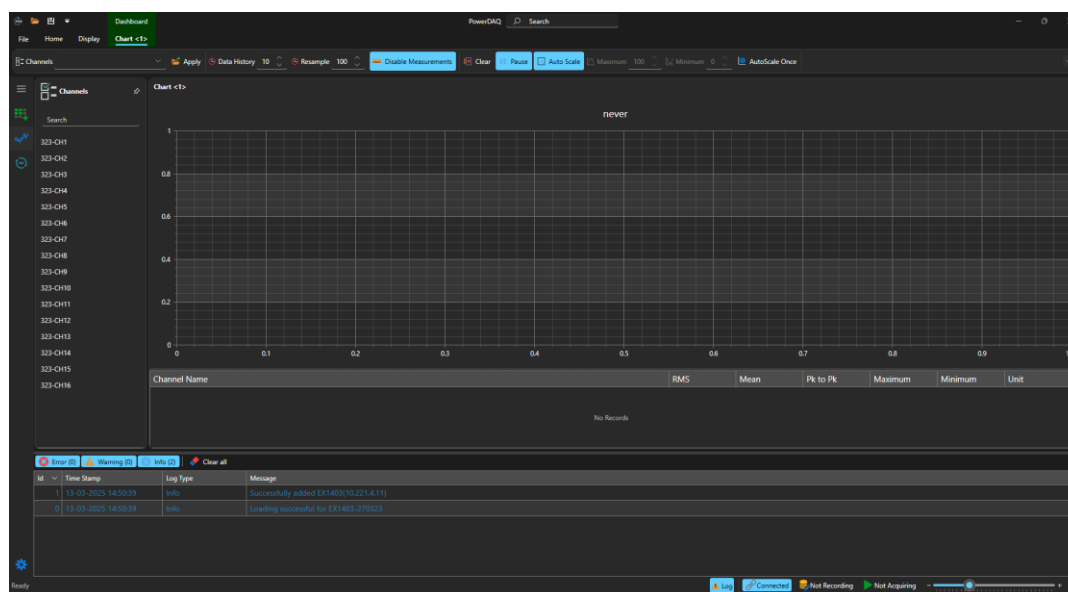

Figure 26. Default Chart
3. Navigate to the Dashboard for real time visualization. The default chart screen will be displayed as shown in Figure 26.